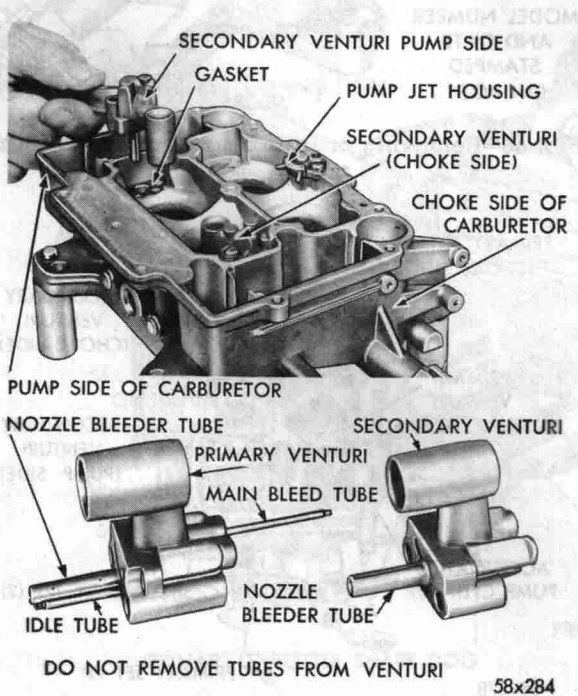

Fig. 62—Removing or Installing Secondary Venturi
(5) Remove the screws that attach the secondary venturi (choke and pump side) to the main body. Lift the secondary venturi assemblies straight up and away from the body, as shown in Figure 62.